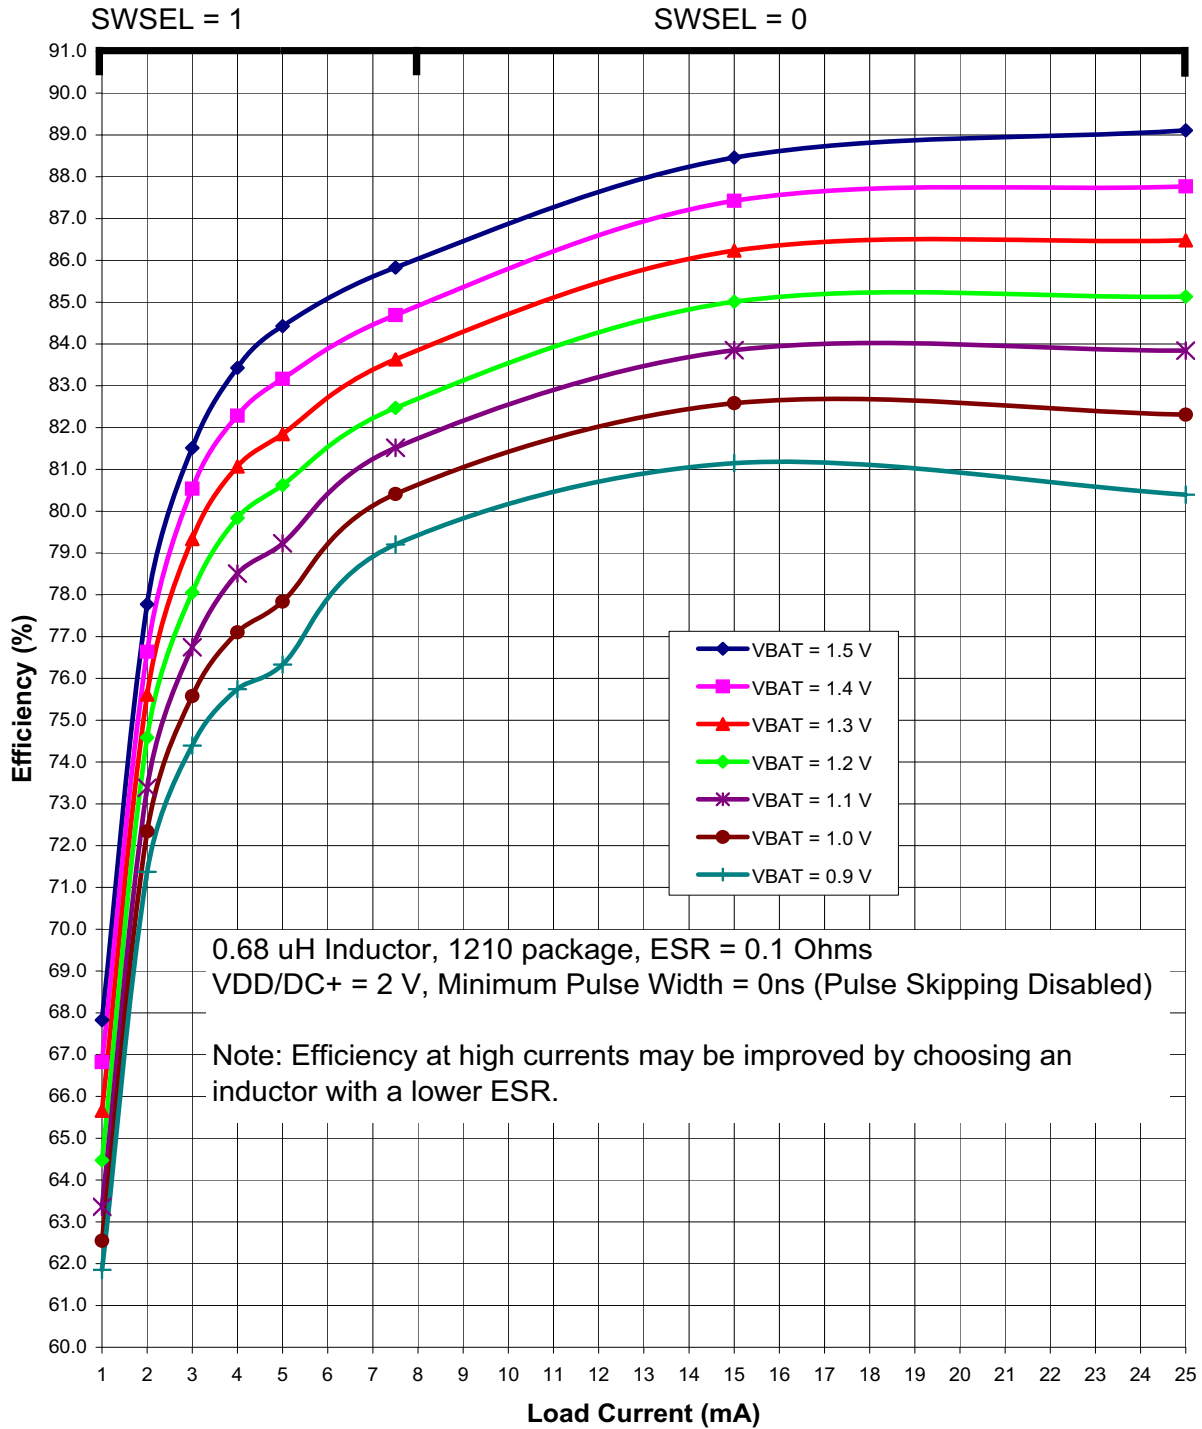

Figure 4.3. Typical DC-DC Converter Efficiency (High Current, VDD/DC+ = 2 V)
<ol style="list-style-type: none"> <li>Based on device characterization data; Not production tested.</li> <li>SYSCLK must be at least 32 kHz to enable debugging.</li> <li>Digital Supply Current depends upon the particular code being executed. The values in this table are obtained with the CPU executing an "sjmp \$" loop, which is the compiled form of a while(1) loop in C. One iteration requires 3 CPU clock cycles, and the Flash memory is read on each cycle. The supply current will vary slightly based on the physical location of the sjmp instruction and the number of Flash address lines that toggle as a result. In the worst case, current can increase by up to 30% if the sjmp loop straddles a 64-byte Flash address boundary (e.g., 0x007F to 0x0080). Real-world code with larger loops and longer linear sequences will have few transitions across the 64-byte address boundaries.</li> <li>Includes oscillator and regulator supply current.</li> <li>IDD can be estimated for frequencies <math>\leq 14</math> MHz by simply multiplying the frequency of interest by the frequency sensitivity number for that range, then adding an offset of 90 <math>\mu</math>A. When using these numbers to estimate <math>I_{DD}</math> for <math>&gt; 14</math> MHz, the estimate should be the current at 25 MHz minus the difference in current indicated by the frequency sensitivity number. For example: <math>V_{DD} = 3.0</math> V; <math>F = 20</math> MHz, <math>I_{DD} = 4</math> mA – <math>(25 \text{ MHz} - 20 \text{ MHz}) \times 0.102 \text{ mA/MHz} = 3.5</math> mA assuming the same oscillator setting.</li> <li>The supply current specifications in Table 4.2 are for two cell mode. The VBAT current in one-cell mode can be estimated using the following equation:  <math display="block">\text{VBAT Current (one-cell mode)} = \frac{\text{Supply Voltage} \times \text{Supply Current (two-cell mode)}}{\text{DC-DC Converter Efficiency} \times \text{VBAT Voltage}}</math> <p>The VBAT Voltage is the voltage at the VBAT pin, typically 0.9 to 1.8 V.            The Supply Current (two-cell mode) is the data sheet specification for supply current.            The Supply Voltage is the voltage at the VDD/DC+ pin, typically 1.8 to 3.3 V (default = 1.9 V).            The DC-DC Converter Efficiency can be estimated using Figure 4.3–Figure 4.5.</p> </li> <li>Idle IDD can be estimated by taking the current at 25 MHz minus the difference in current indicated by the frequency sensitivity number. For example: <math>V_{DD} = 3.0</math> V; <math>F = 5</math> MHz, Idle <math>I_{DD} = 2.1</math> mA – <math>(25 \text{ MHz} - 5 \text{ MHz}) \times 0.079 \text{ mA/MHz} = 0.52</math> mA.</li> </ol>